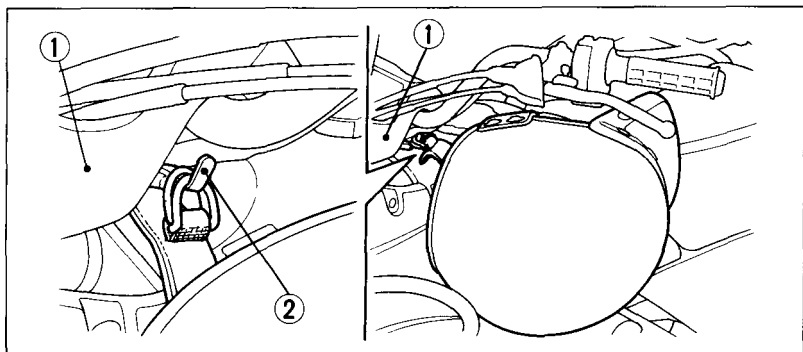

Fig. 2-20
The helmet holder (Fig. 2-20) is a bracket near the left side of the handlebar cover (1). To use the holder, hang the D-ring on your helmet strap over the bracket. Use the helmet holder only when the FOURTRAX is parked.